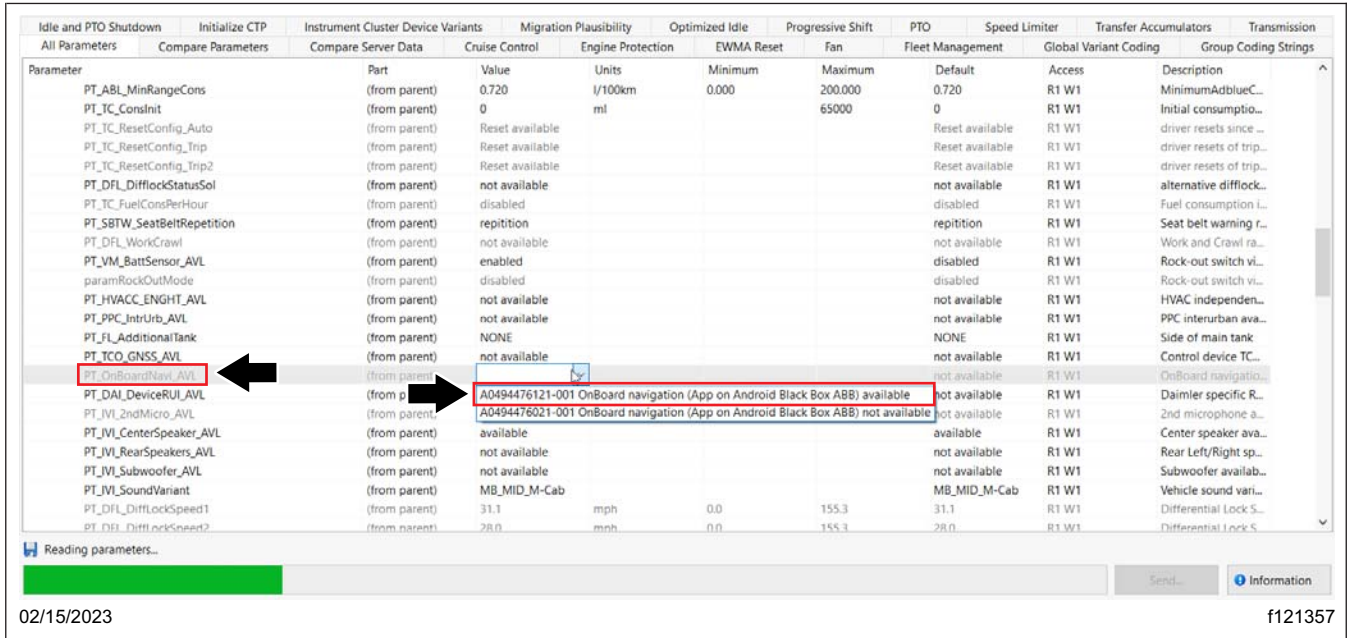

Fig. 27, Setting the Parameter Value
21.6 Set the 'PT_OnBoardNavi_AVL' parameter value to 'A0494476121-001 OnBoard navigation (App on Android Black Box ABB) available.' See Fig. 27.